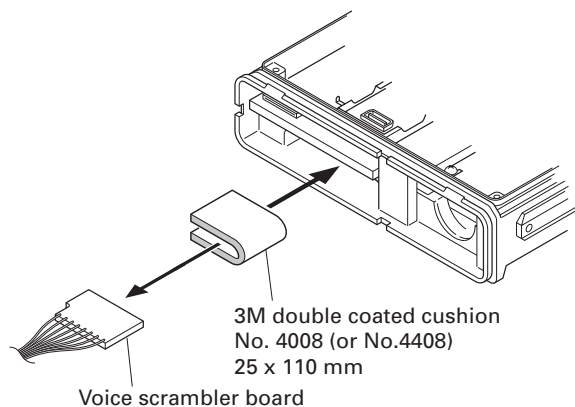

Fig. 6-2
3. Wrap the scrambler board in a cushion and install it on the front of the chassis as shown in Figure 6-2.